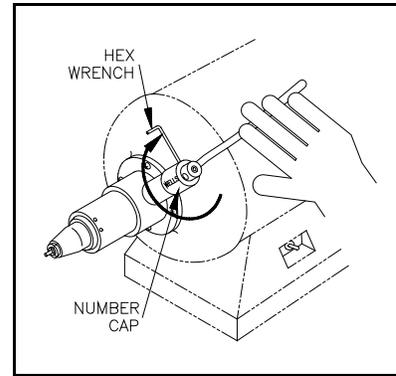

Figure 9.
6.6.3 Turn the number cap clockwise against the spring tension until the set screw is facing straight up (12:00 o'clock). Be sure the handle is still in the operating position (2:30 o'clock). Tighten the set screw. See Figure 9. If there is no spring tension, the spring is damaged; go to section 6.7, REPLACING THE CLUTCH SPRING.
6.7.7 Turn the number cap clockwise against the spring tension until the number cap set screw is facing straight up (12:00 o'clock). Be sure the handle is still in the operating position (2:30 o'clock). Tighten the number cap set screw. See Figure 9.